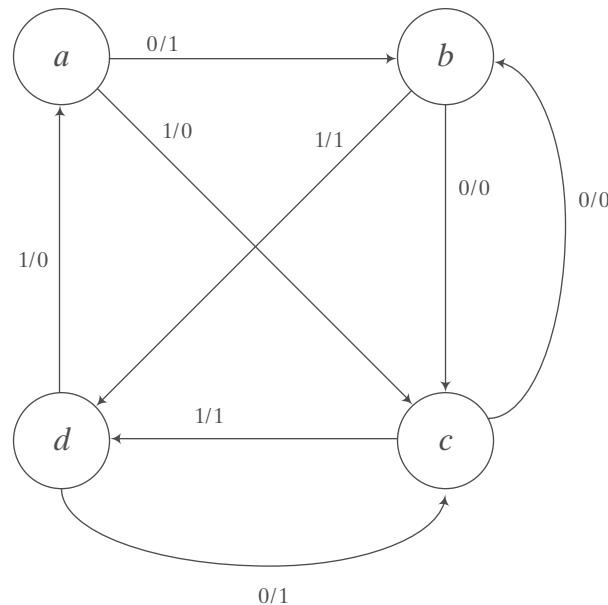

FIGURE P5.48
- 5.48** Write a Verilog model of the Mealy FSM described by the state diagram in Fig. P5.48. Develop a test bench and demonstrate that the machine state transitions and output correspond to its state diagram.